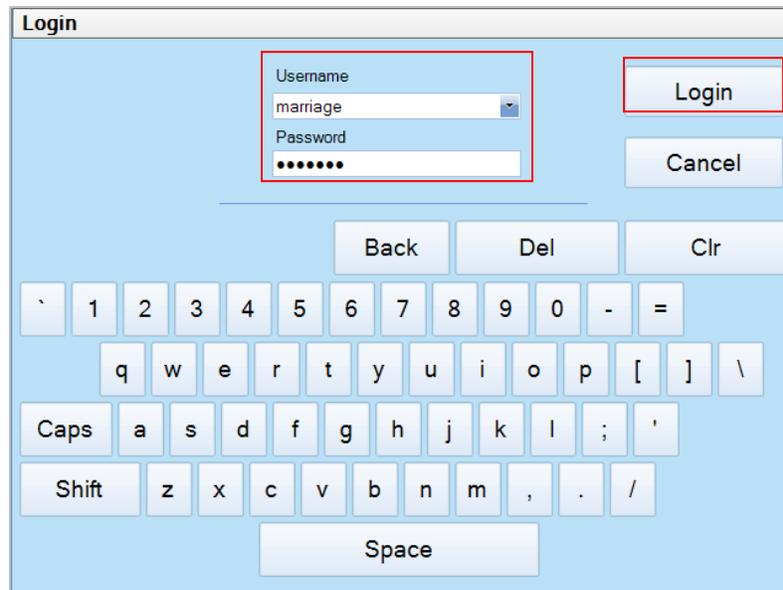

Figure 26 Marriage account login
2. Enter Username as **[marriage]** and its password and click **[Login]** button. (as shown in Figure 26).